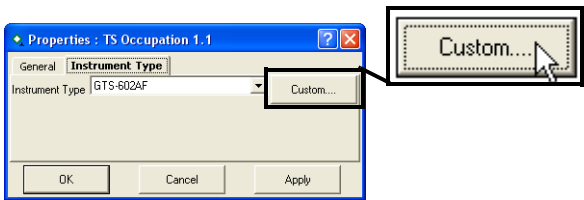

Figure 5-78. Open Custom TS Instrument List
- 2. Click **Custom** (Figure 5-78) to display the *Custom TS Instrument List*.